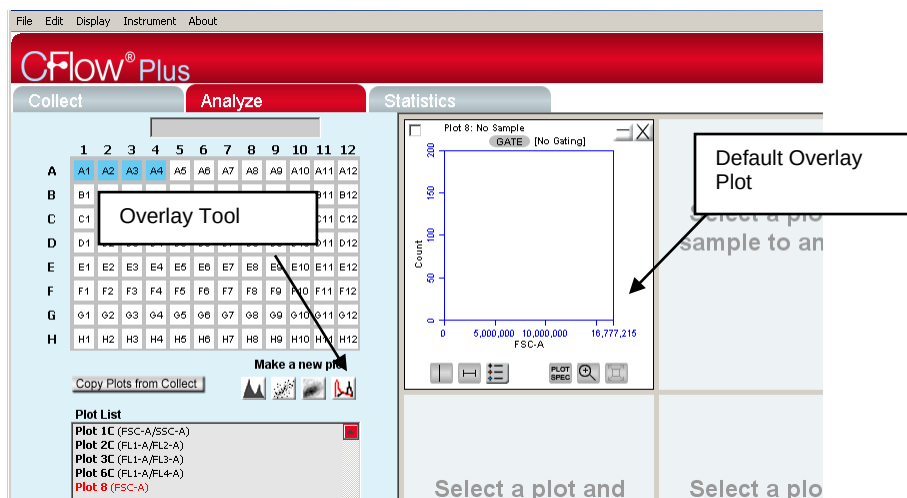

Figure 4-10 Analyze tab: Overlay Tool has been selected.
2. Click on the Overlay Tool, under the 96 well grid, and a single parameter, FSC-A plot will open (Figure 4-10).